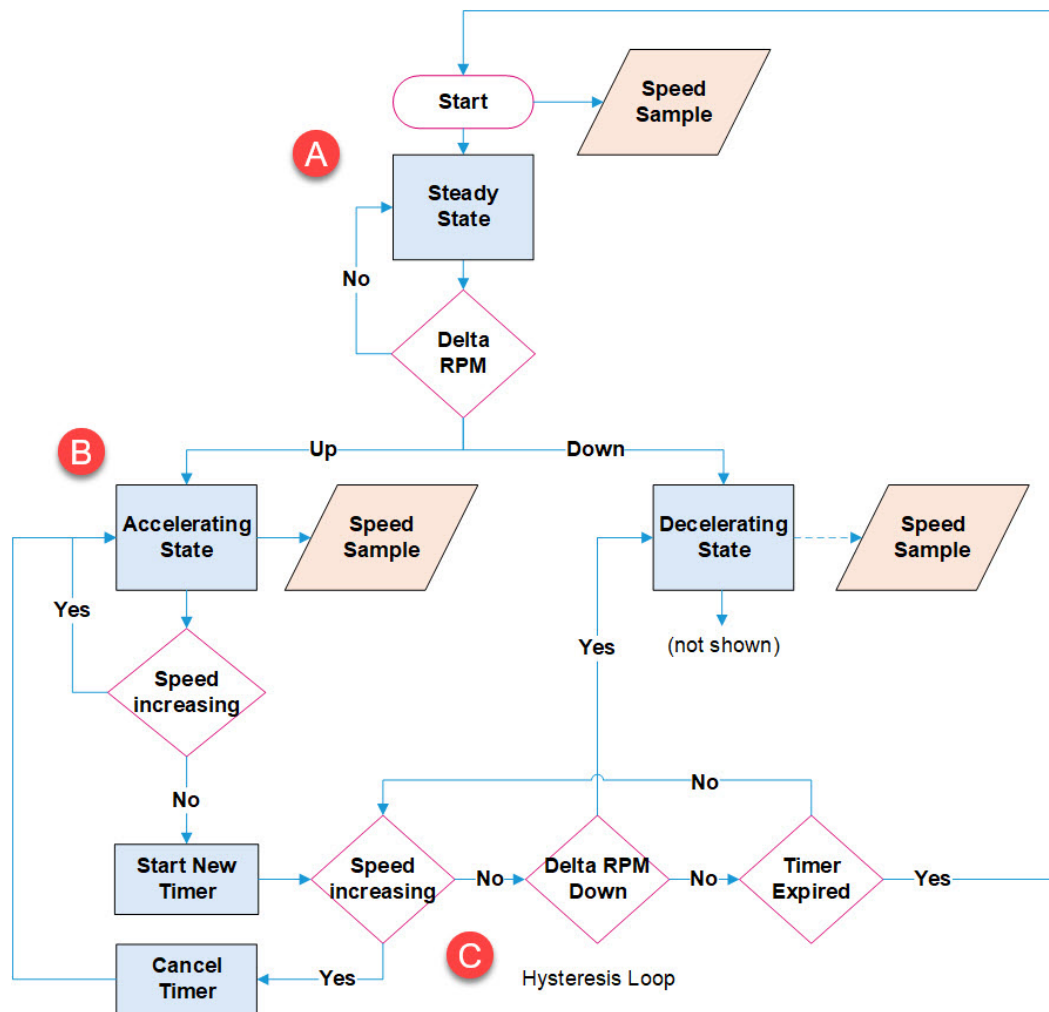

Figure 9-10) Machine Accelerating - State Evaluation
When the Phase Trigger becomes valid (see **Figure 9-10**), a speed reference is saved, and the machine-state equals Steady State (A). The speed is then checked every 40 msec. When the speed increases by the Delta RPM setting (Phase Trigger channel) the machine-state changes to Accelerating (B). If the speed value continues to increase, the machine-state remains Accelerating.
A hysteresis timer (C) prevents erratic machine-state changes. The timer is three shaft rotations, based on the last sample speed value, or 80 msec, whichever is longer. If the machine-state has stopped accelerating, the timer starts. When the timer expires, the state changes to Steady State. If the machine starts to accelerate again (before the timer expires) the timer is canceled, and the state remains Accelerating (B). **Figure 9-10** shows a simplified diagram of this process.